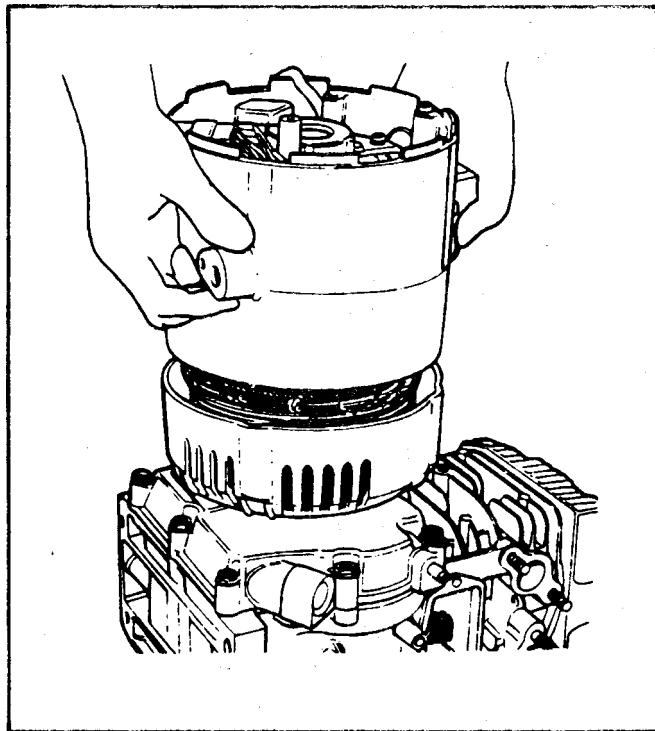

Figure 147
5. Align the through bolt holes with the holes in the front generator cover (the cover bolted to the engine) and install the stator. Take extreme care not to damage any of the coils in the stator. See Figure 147.